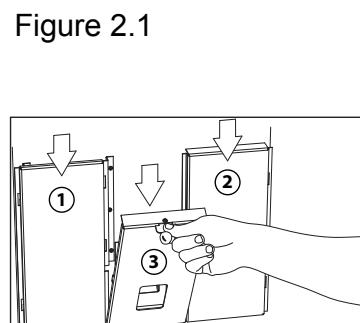

Figure 2.2
3. Open front door and ensure all baffle are installed properly, **Figure 2.2** (also see **Clean the Exhaust Path, Baffles, and Drop Tube in the General Maintenance section of Owner's Manual under Maintaining and Servicing the Appliance**).